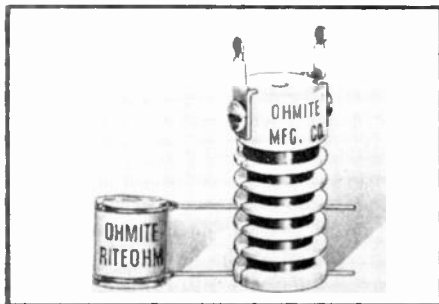

FIG. 3. CERAMIC-BOBBIN RESISTORS
**Ceramic-Bobbin Resistors:** Two new series of precision resistors which feature the use of ceramic bobbins are being produced by Ohmite Manufacturing Company, 4835 Flourney Street, Chicago 44. Series 83, shown at the left in Fig. 3, is wound for values of 10 ohms to .4 megohm. Bobbins are 1/2 in. in diameter and 7/16, 5/8, or 1 in. long. The larger type, series 82, is wound for values of .1 ohm to 1. megohm. Bobbins are 11/16 in. in diameter, and 1 1/8, 1 7/16, or 1 3/4 ins. long. Accuracy is  $\pm 1\%$ . The windings, of enameled wire, are vacuum-impregnated, and can be further protected with anti-fungus varnish.